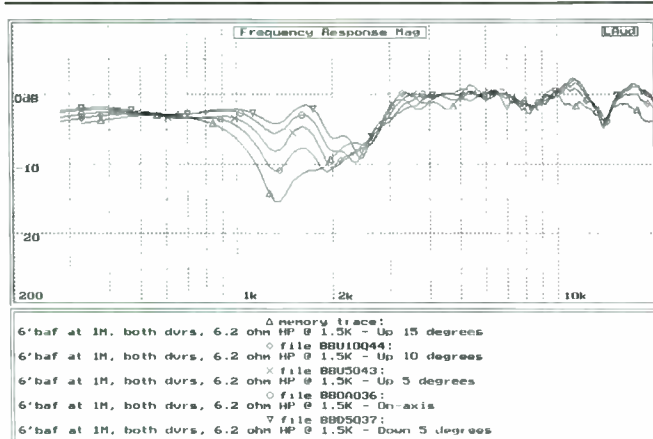
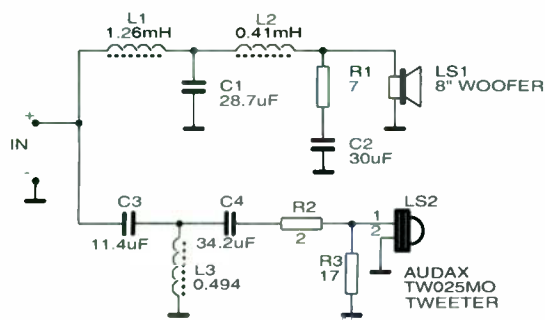
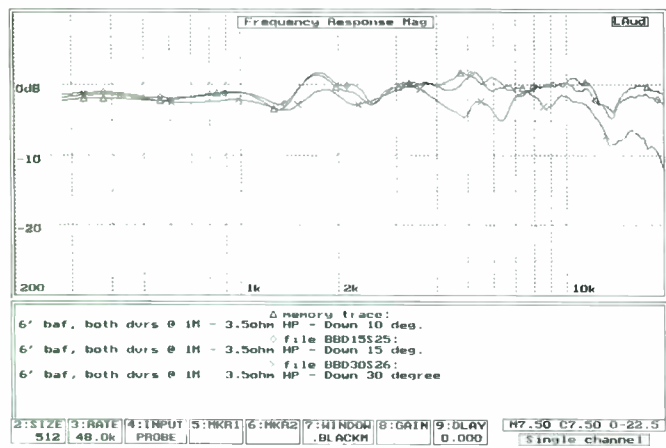
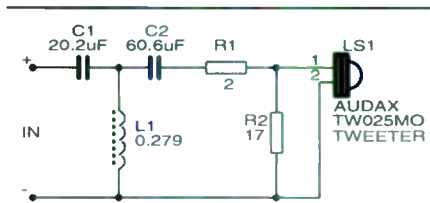

FIGURE 1: Acoustic summation response of 8" two-way system at angles from up 15° to down 5°.
FIGURE 3: Crossover schematic for two-way system.
FIGURE 4: Acoustic summation response of 8” two-way system with modified high-pass crossover.
FIGURE 5: Schematic for modified high-pass crossover.
The 1" dome tweeter and 8" woofer were mounted vertically aligned, with the tweeter at the top, in the 6' test baffle. Figures 1 and 2 show the anechoic response of the system
Figure 3 shows the CO I used for these tests; I modified the high-pass (HP) from the theoretical design values to “push” the tweeter response for a smoother summed response. Further modification of the HP CO can help to fill in the 2–3kHz dip shown in Figs. 1 and 2. The results of the modification appear in Fig. 4 for various test angles, and Fig. 5 is the HP schematic.